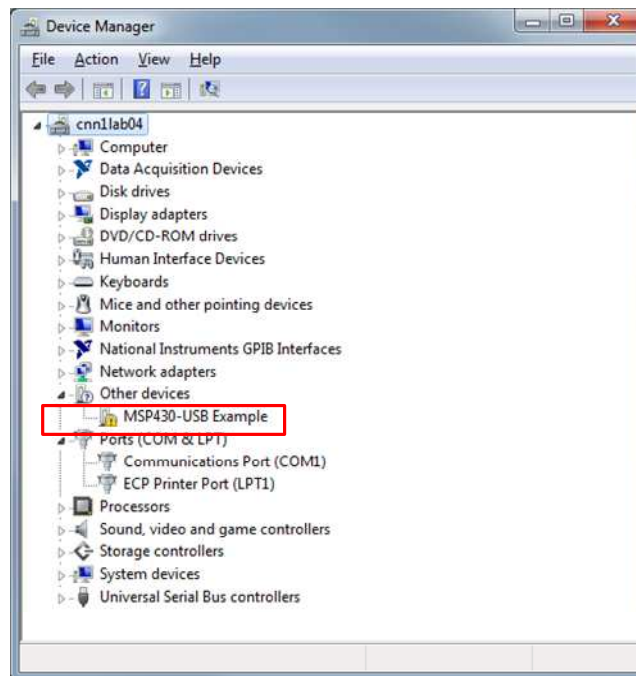

Figure 12. Update Driver Software
5. Before launching the LMP92064EVM software, connect the USB2ANY board to a USB port of your PC. Go to your computer’s **“Device Manager”** and find **“MSP430-USB Example”** (see Figure 12). Right-click on it and choose **“Update Driver Software”**.